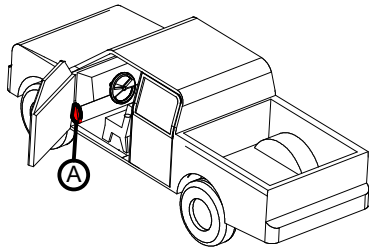

Figure A-1
2. Locate the rear door-ajar signal wire (**orange**) on black connector below the hood-release lever (Area-A in Figure A-1). There should be two wires of this color; use the wire located on the row closest to the plug release.